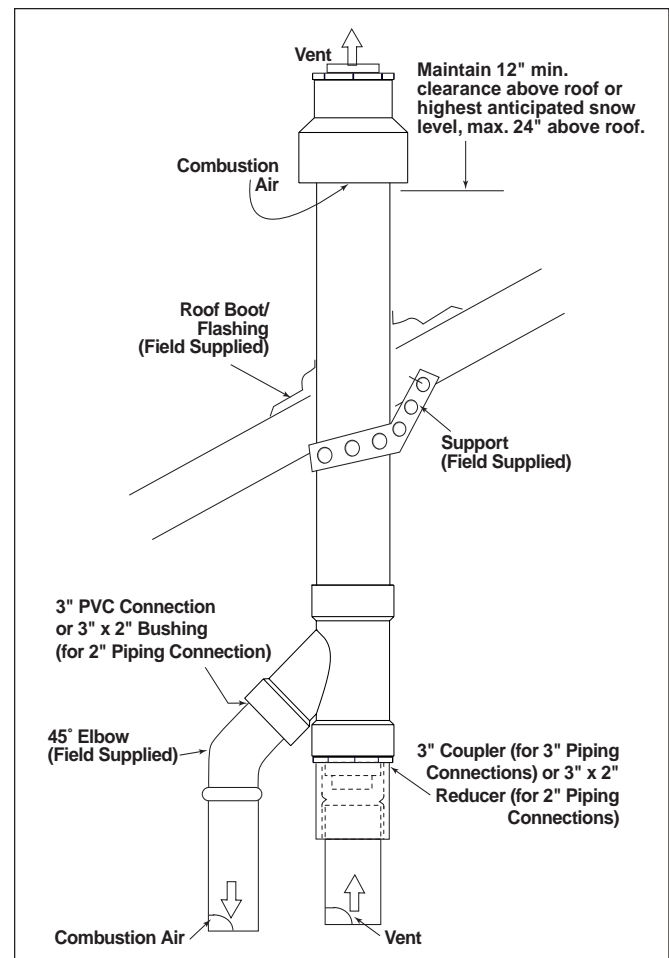

Figure 3. Roof Installation
4. Install cemented WYE concentric fitting and pipe assembly through structure's hole and field supplied roof boot/flashing (See Figure 3).
5. Secure assembly to roof structure as shown in Figure 3 using field supplied metal strapping or equivalent support material. NOTE: Ensure termi-